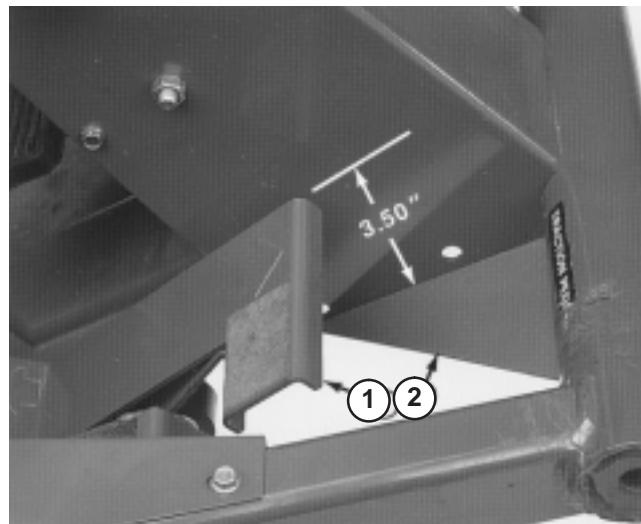
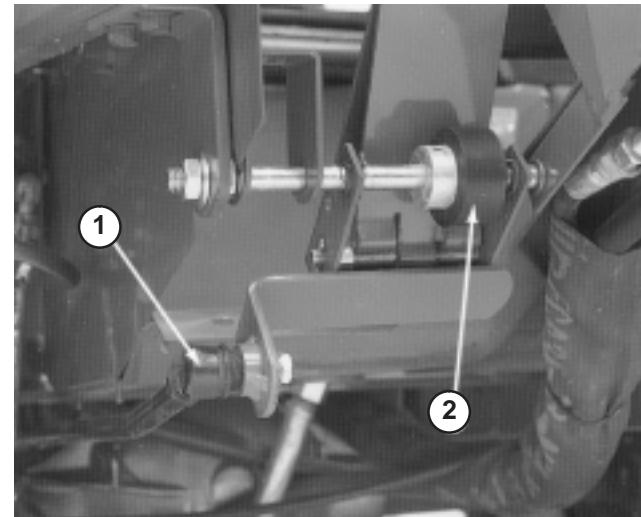

Figure 56
Figure 57
2. Press down on front of traction pedal and check travel. There should be approximately 3.50" clearance between end of pedal and floor plate when pedal in fully depressed (Fig. 56). Adjust pump control rod (Fig. 57) to attain dimension.
1. Loosen two nuts securing traction pedal shaft on right side of pedal (Fig. 57).